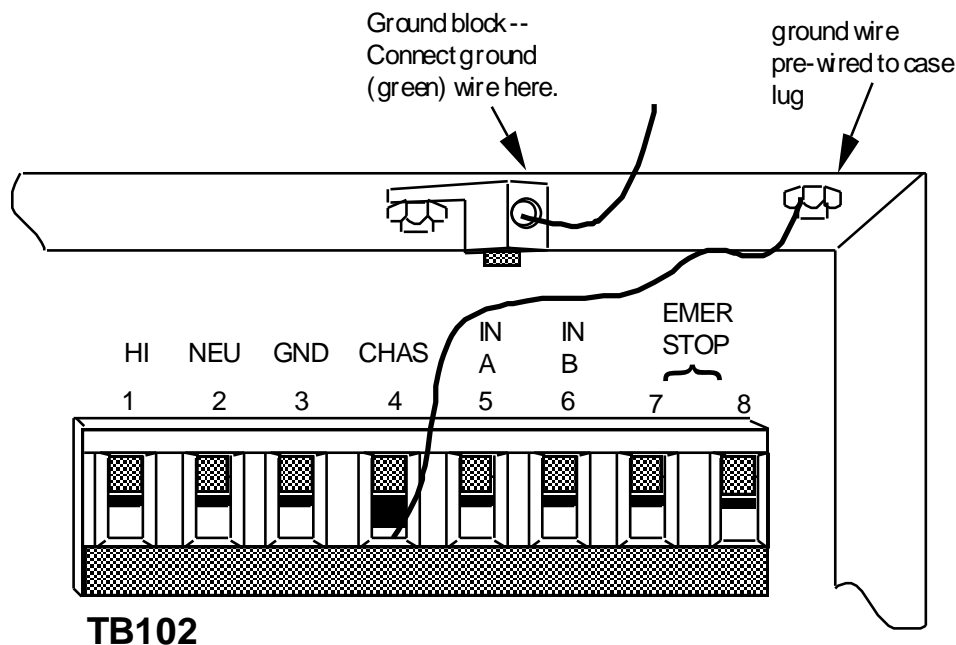

Figure 2-9. Wintriss Brake Monitor ground connections
7. To make ground connections: Refer to Figure 2-9. Your ground (green or green/yellow) wire must be connected to the ground block, not to "GND". The ground block is located on the wall of the unit just above the connector as shown. To connect to the ground block, strip the ground wire about 1/4" (6.4 mm) from end, loosen screw on block, slide wire in hole, and tighten screw to pin wire in place. A ground wire is attached from the connector to a case lug. Leave the ground wire attached to the connector while making connections. *If you remove this wire in order to pull the connector all the way out of the unit, be sure to replace it when done.*